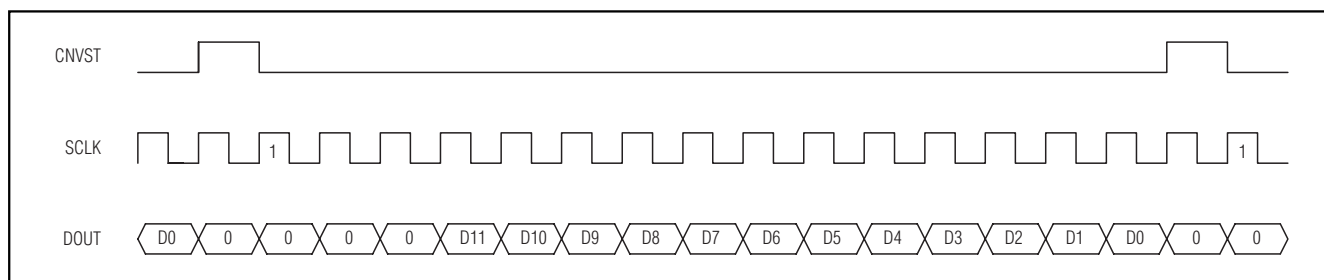
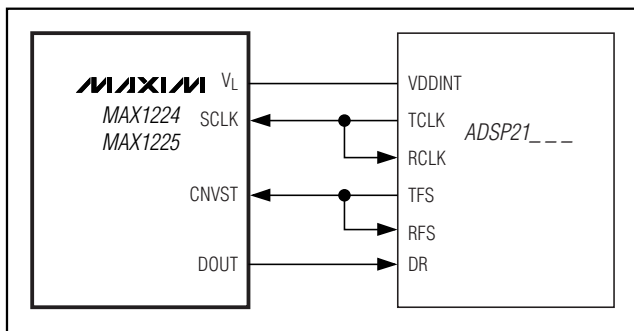

Figure 17. DSP Interface—Continuous Conversion
Figure 19. Interfacing to the ADSP21___
The MAX1224/MAX1225 can also be connected to the TMS320C54_ by using the data transmit (DX) pin to drive CNVST and the CLKX generated internally to drive SCLK. A pullup resistor is required on the CNVST signal to keep it high when DX goes high impedance and 0001hex should be written to the DXR continuously for continuous conversions. The power-down mode may be entered by writing 00FFhex to the DXR (see Figures 17 and 18).
The MAX1224/MAX1225 can be directly connected to the ADSP21_ _ _ family of DSPs from Analog Devices, Inc. Figure 19 shows the direct connection of the MAX1224/MAX1225 to the ADSP21_ __. There are two modes of operation that can be programmed to interface with the MAX1224/MAX1225. For continuous conversions, idle CNVST low and pulse it high for one clock cycle during the LSB of the previous transmitted word. The ADSP21_ _ _ STCTL and SRCTL registers should be configured for early framing (LAFR = 0) and for an active-high frame (LTFS = 0, LRFS = 0) signal. In this mode, the data-independent frame-sync bit (DITFS = 1) can be selected to eliminate the need for writing to the transmit-data register more than once. For single conversions, idle CNVST high and pulse it low for the entire conversion. The ADSP21_ _ _ STCTL and SRCTL registers should be configured for late framing (LAFR = 1) and for an active-low frame (LTFS = 1, LRFS = 1) signal. This is also the best way to enter the power-down modes by setting the word length to 8 bits (SLEN = 1001). Connect the V_L pin to the ADSP21_ _ _ supply voltage when the MAX1224/MAX1225 are operating with a supply voltage higher than the DSP supply voltage (see Figures 17 and 18).